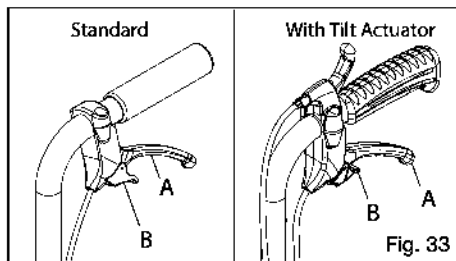

Fig. 33
- Squeeze the brake levers (Fig. 33:A) on both sides of the chair to activate the brakes. Each side is operated independently and may be squeezed with more or less force to get more or less braking action.
- For parking brake function, squeeze each brake lever and, with trigger squeezed, use index finger to flip locking lever (Fig. 33:B) down into the teeth on the lever mount. While holding the locking lever down, release brake handles and parking brake will remain engaged.